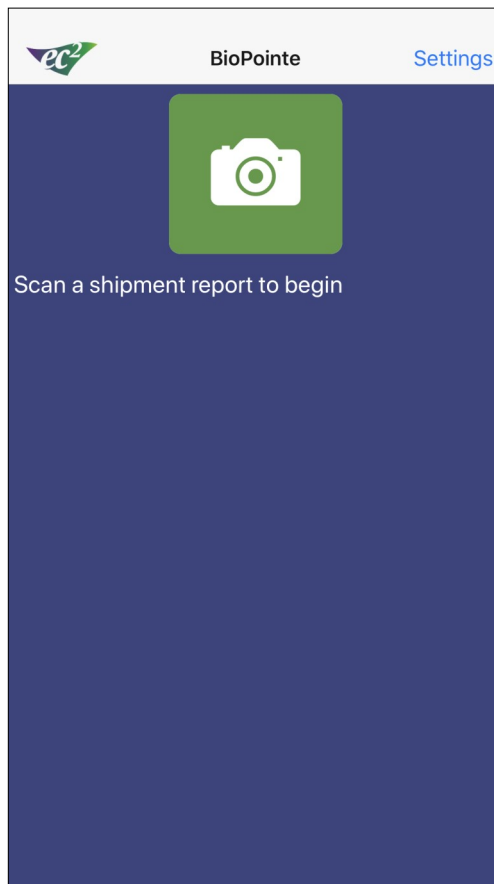

Fig 1
- b. Click on the camera to scan shipment barcode. See Fig 1